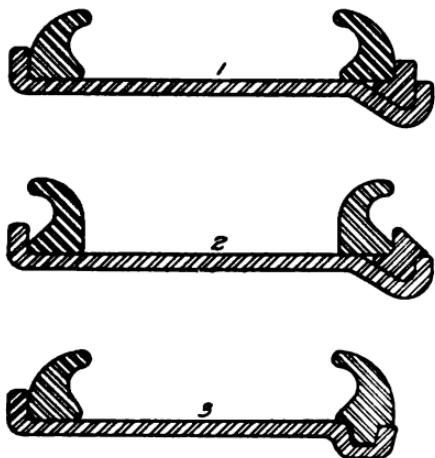

Fig. 72. Sections through Three Popular Q.D. Universal Rims
ring and the shape of the locking ring. Both of these are called universal rims because they may be used interchangeably for straight-side and clincher types of tire. Other Q. D. Universals are shown in Fig. 72, although, in the opinion of tire men, the Universal form is slowly going out of use.
Q. D. Clincher Forms. To return to the plain clincher tire and the Q. D. rim, which allows of its ready removal, Fig. 74 shows four of the most prominent forms, these being indicated simply as flat sections of the rim, for the tire is the same in all cases. All these have the simple clincher edge on one side, with removable ring and locking device on the other. That at 1 has the same locking device shown at 2 in Fig. 72, the Z-shaped ring extending over the edge of the band. That at 2 is practically the same as 3 in Fig. 72. The one seen at 3
Comparison of Continuous Holding Ring Type with Local-Wedge Type. To return to demountable-detachable rims, these may and do include a number of those quick-detachable forms previously shown and described. In Fig. 91 a pair of typical forms is shown, that at 1 being fitted for a clincher tire, while that at 2 is for a straight side. Looking at the detachable part of the rim, number 1 will be recognized as that previously shown at 3, Fig. 72, where it was described as a universal rim, the inversion of the two rings converting it from a clincher to a straight side, or *vice versa*. Similarly, 2 will be recognized as the form of detachable shown at 3 in Fig. 75.